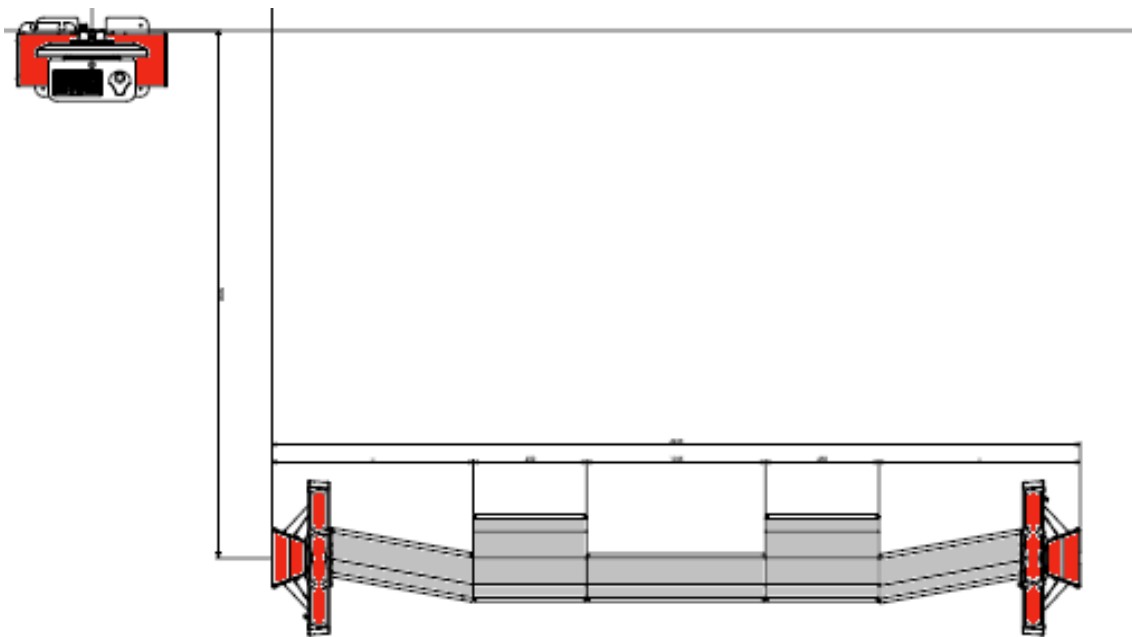

Figure 102 – Basic configuration
- Assemble the measurement units, the central unit, the metal runways and the cable conduits in accordance with the directions and measurements given in the layout in figure 102.
The installation layout and the necessary installation space for a complete system are given in figure 102. The working space necessary for the installation of a complete pre-check wheel alignment measurement system is therefore  $L \times W \times H = 6.50 \times 3.50 \times 2.50 \text{ m}^3$ .